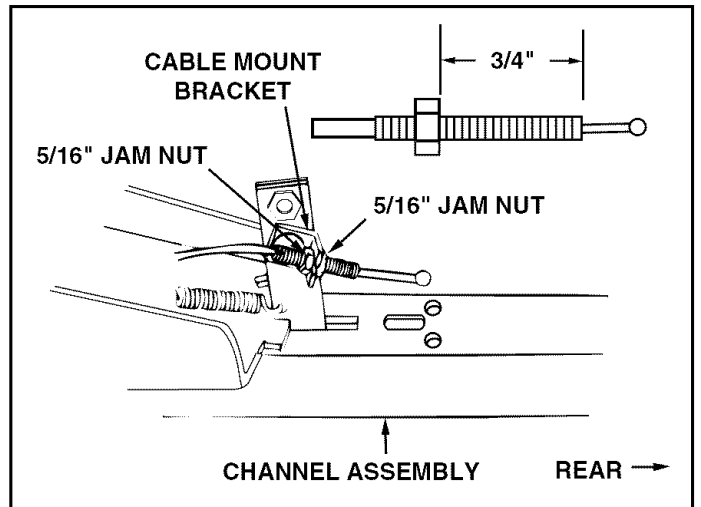

FIGURE 11 (Left Hand Side View)
- Assemble one 5/16" jam nut approximately 3/4" onto threaded end of control cable. Assemble threaded cable end through round hole in cable mount bracket as shown in figure 11, and secure with another 5/16" jam nut. **Tighten**. See figure 11.